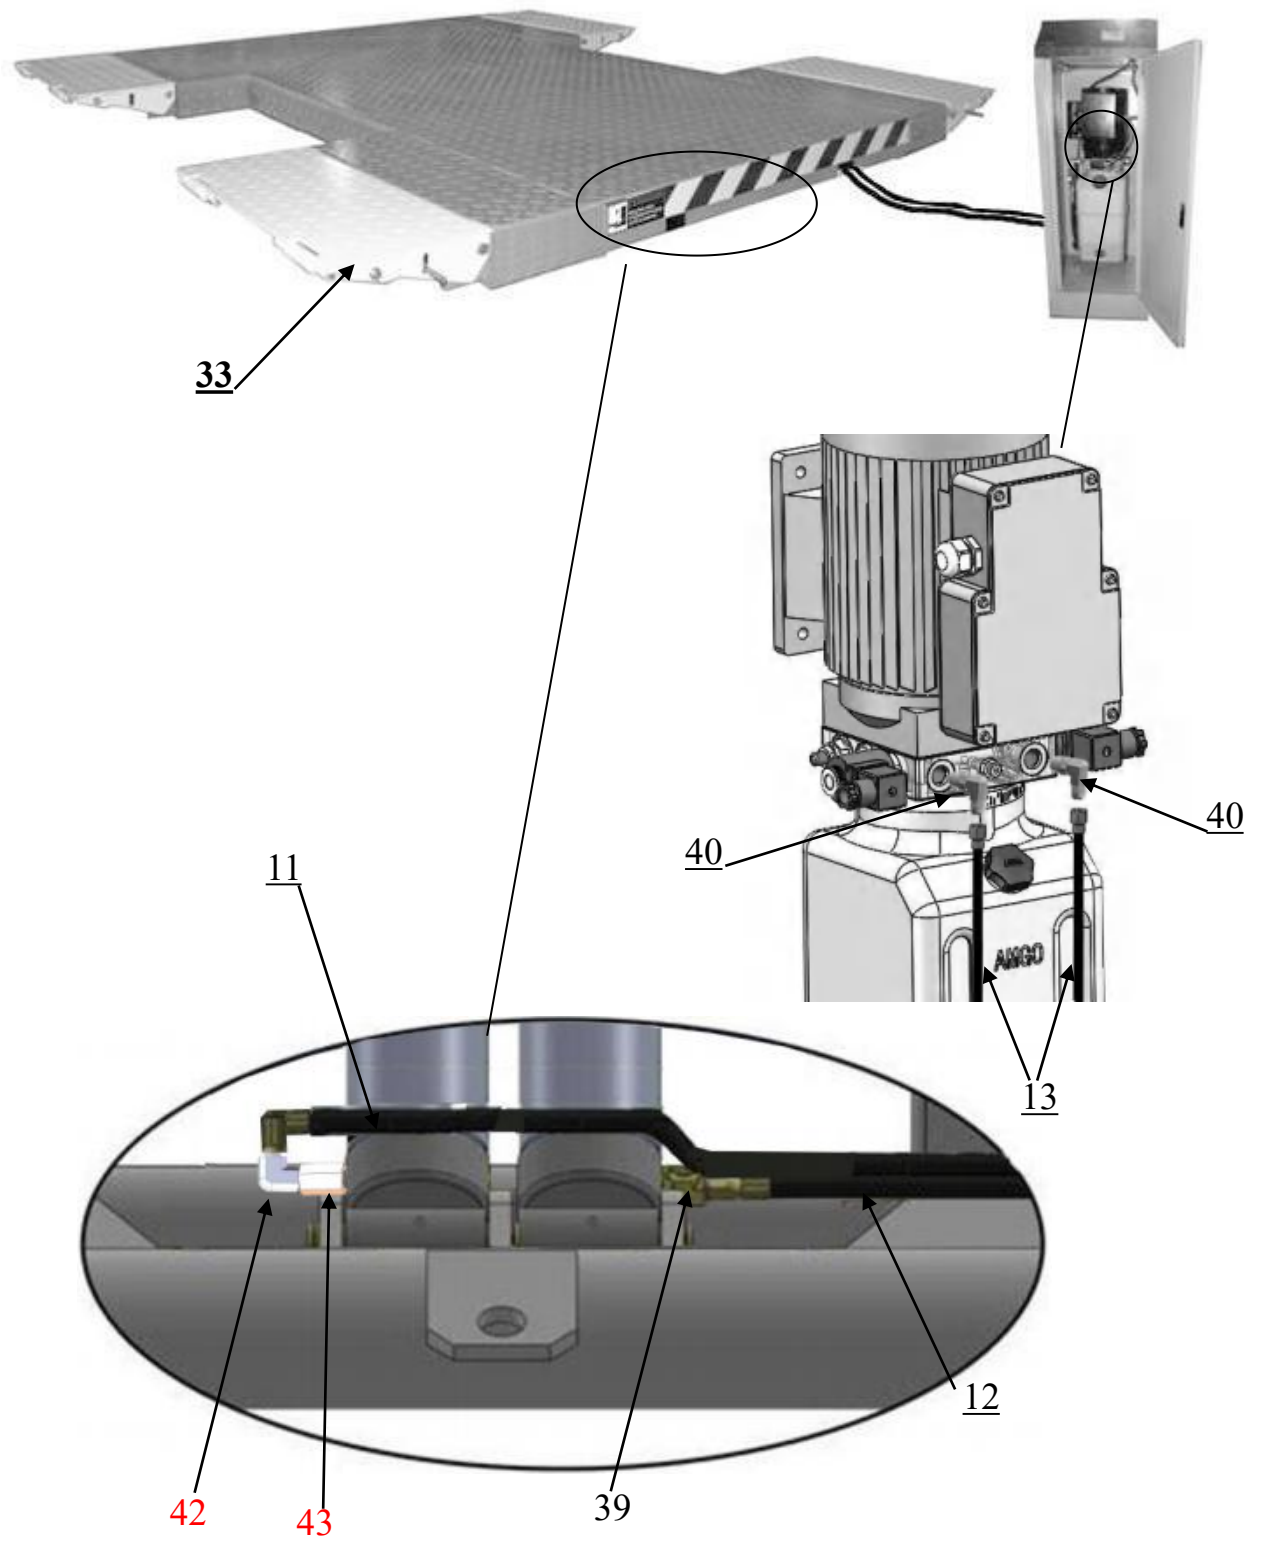

Fig. 8
D. Hydraulic system (See Fig.8)